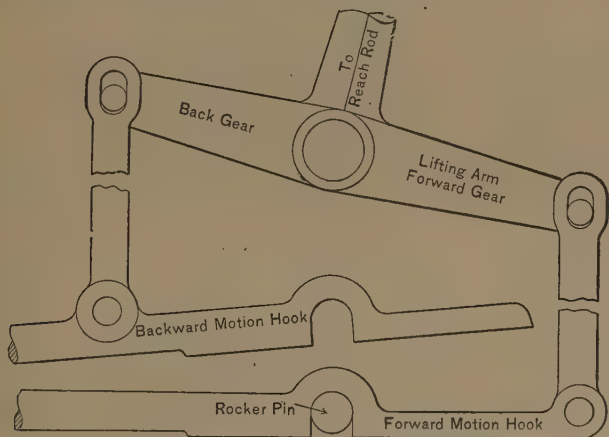

Fig. 153. Hook Valve Motion.
A. A reversed arrangement of Stephenson's fork motion: no starting bar being necessary, the V's settling on the pin and resting in the center. (See Fig. 153.)